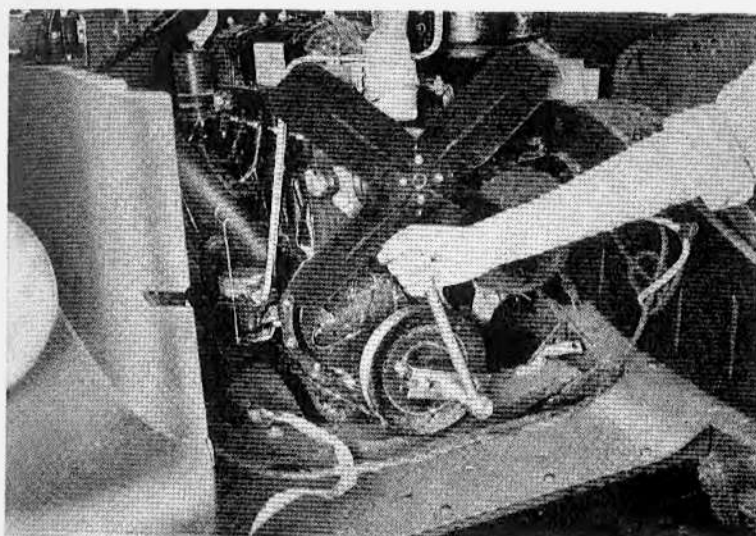

Figure 40 – Removing Crankshaft Pulley
(6) Install crankshaft puller (BX SST-1022) and turn puller screw to remove pulley (Fig. 40).